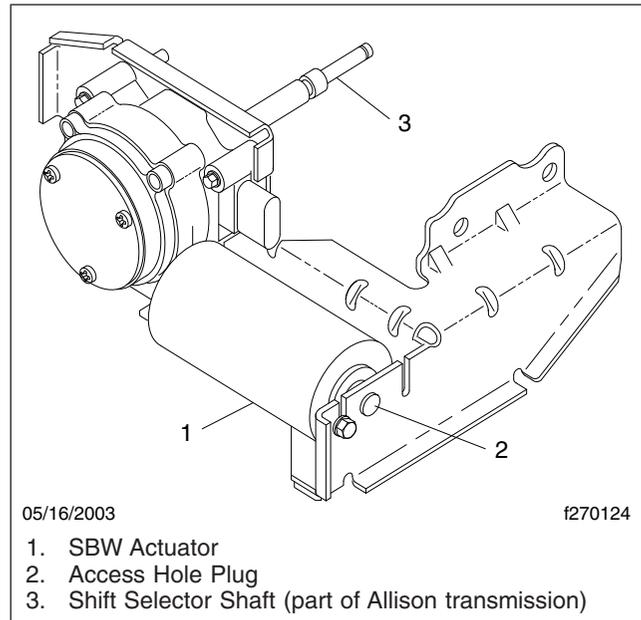

Fig. 13.1, SBW Actuator (at transmission)
5. Underneath the disabled vehicle, at the transmission, remove the access hole plug at the rear of the SBW actuator. See Fig. 13.1.
6. Insert a 3/16-inch allen wrench or hex key through the access hole into the rear of the actuator. Turn the allen wrench in a clockwise direction until the transmission comes out of the Park (P) position.